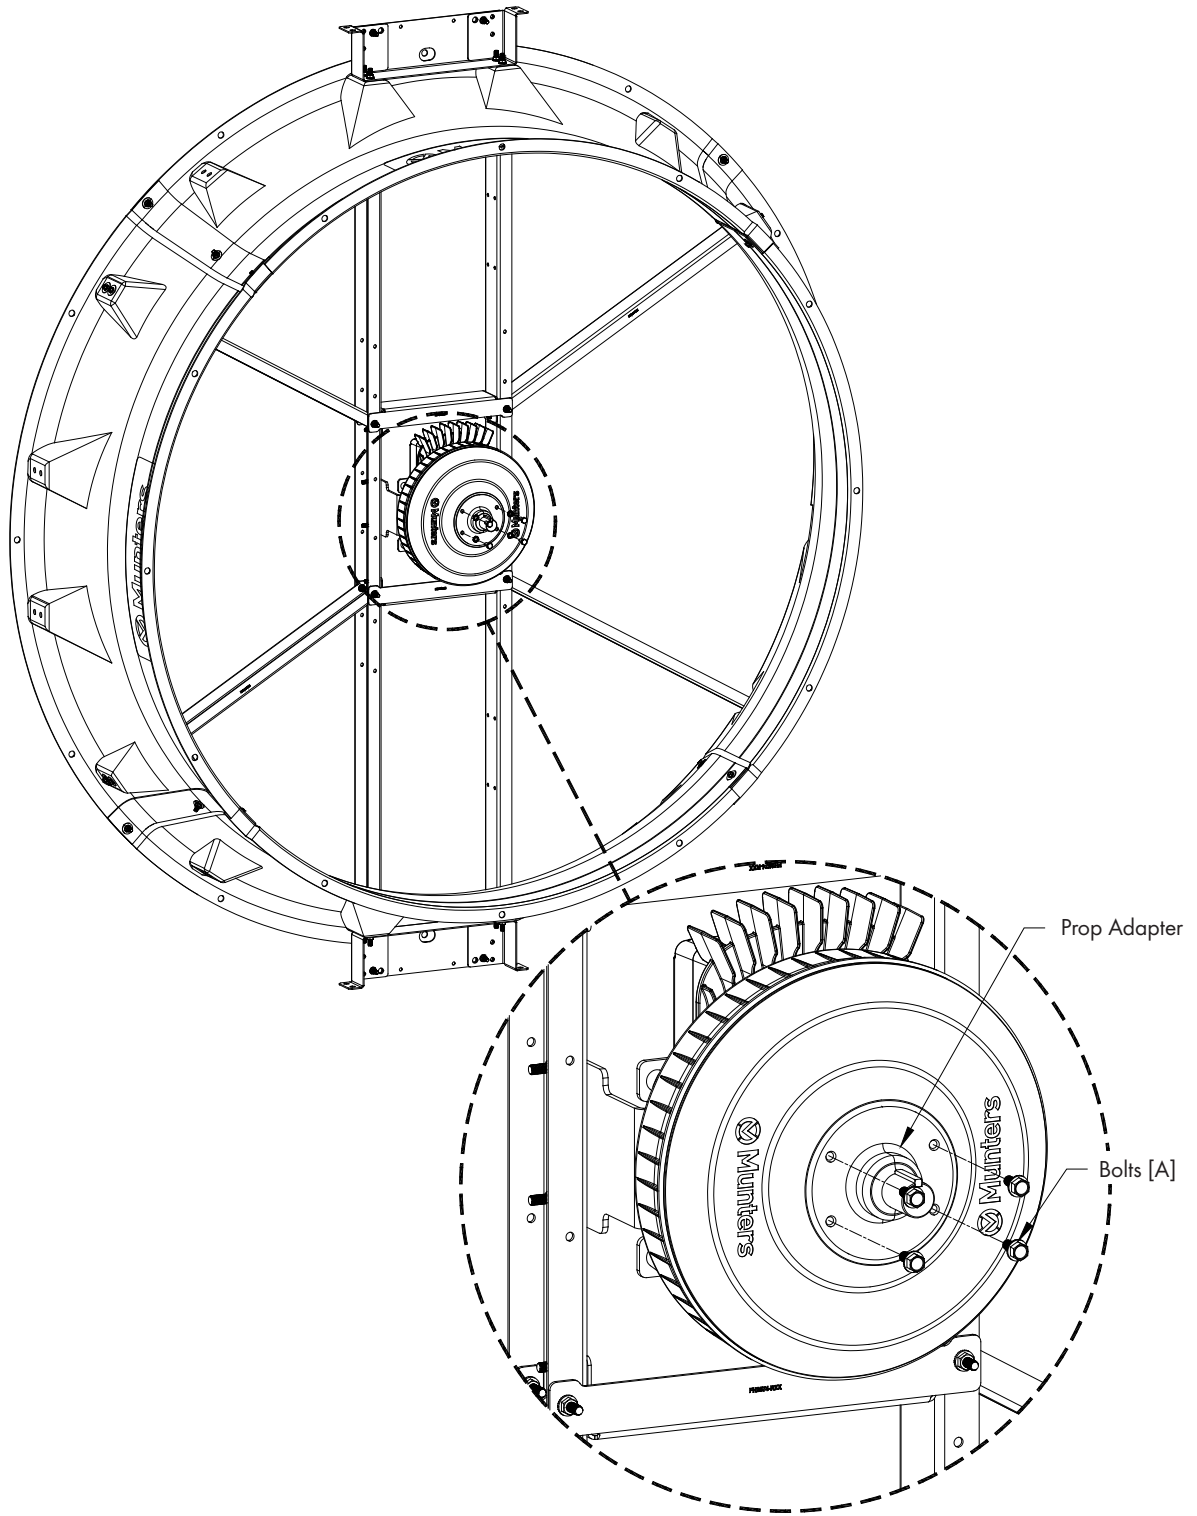

Figure 19
Attach the Prop Adapter removed in Step 16 to new Motor/Drive using (4) new Bolts [A]. Tighten Bolts to 60 in-lbs. [6.8 Nm] of torque. See Figure 19.